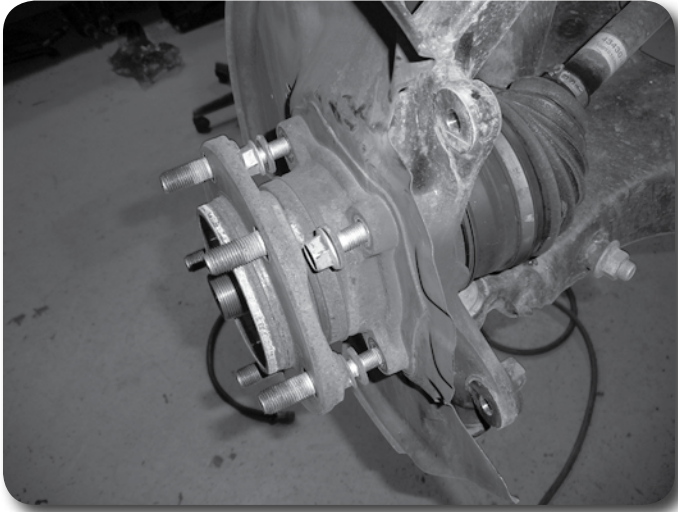
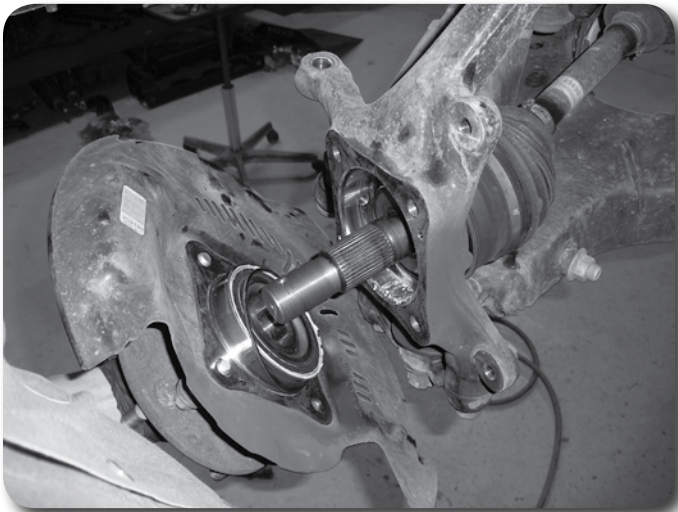

Figure 13A
Figure 13B
17. Disconnect the hub bolts from the steering knuckle. **Figure 13A** The bolts are captive in the hub assembly. Remove the hub, brake dust shield and hub o-ring from the steering knuckle and set aside **Figure 13B**.